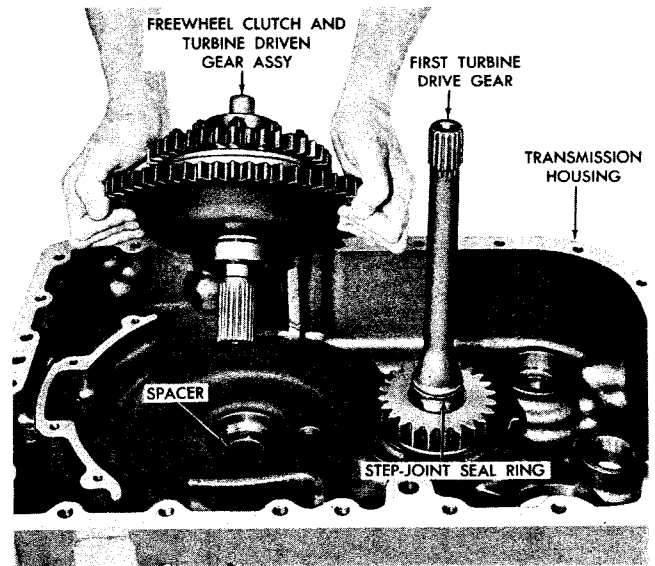

Fig. 7-36. Installing freewheel clutch and turbine driven gear assembly (-3 model)
(2) Install first-turbine drive gear and bearing (as assembled in para 6-16) into the housing (fig. 7-36).
(3) Install the step-joint sealring into the groove in the hub of the first-turbine drive gear (fig. 7-36). Refer to the note following 7-3c(1), above.
(4) Install the forward and reverse sun gear spacer (fig. 7-36). Center the spacer on the sun gear.
(5) Install the assembled freewheel clutch and the turbine driven gear assembly (fig. 7-36).